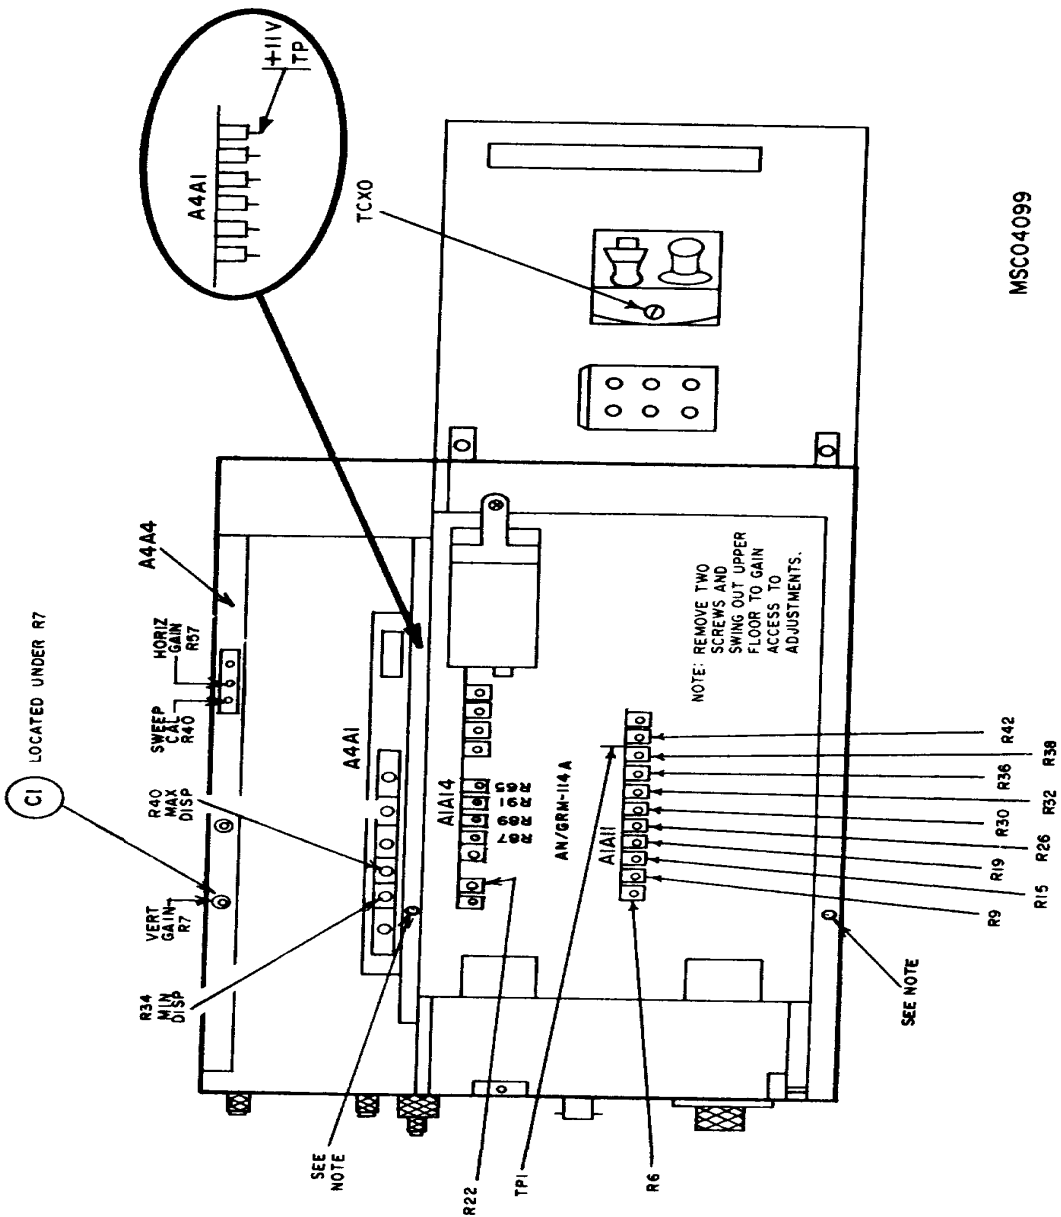

Figure 1. Test instrument - top view.
- (1) Adjust **REF CAL** (front panel) to its mechanical center.
- (2) Adjust TCXO (fig. 1) until frequency counter indicates 10,000,000 Hz.